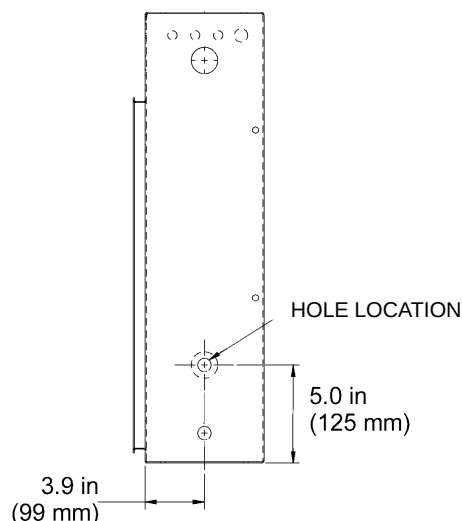

FIGURE 2.0-1 STARTER ENCLOSURE (WITH HORN MOUNTING HOLE LOCATION)
3. Drill a 7/8 inch (22mm) diameter hole in the right side of the starter enclosure at the location shown in Figure 2.0-1.